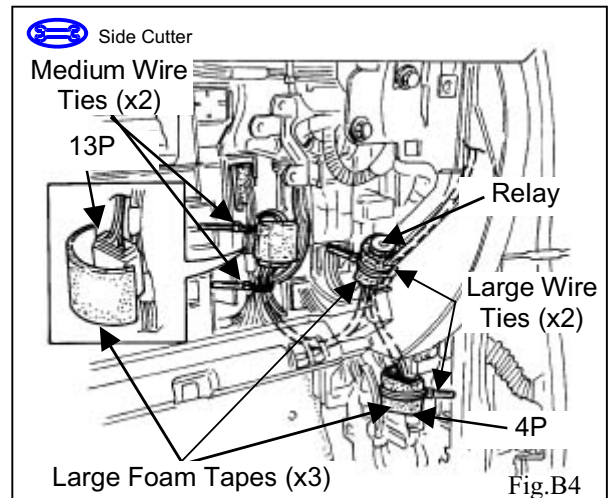

Fig.B4
5. Wrap the white 4P connectors with one large strip of foam tape. (Fig. B4)
6. Wrap the white 13P connectors, V5 harness and vehicle harness with one large strip of foam tape. (Fig. B4)
7. Wrap the V5 harness relay with one large strip of foam tape. (Fig. B4)
8. Secure the V5 harness relay to the vehicle harness with one large wire tie. (Fig. B4)
9. Secure the 4P connectors to the vehicle harness with one large wire tie. (Fig. B4)
10. Secure the V5 harness to the vehicle harness with two (2) medium wire ties. (Fig. B4)